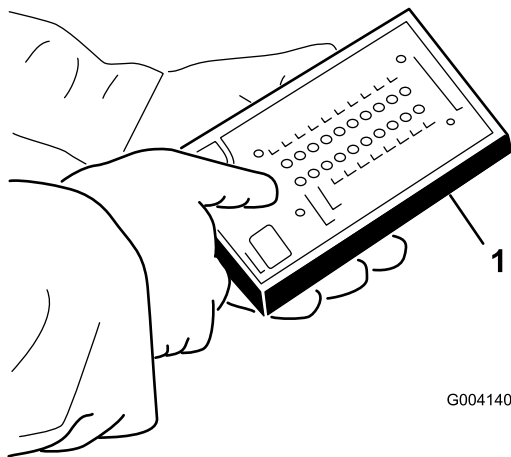

Figure 49
5. Connect the Diagnostic ACE display connector to the harness connector (Figure 49).